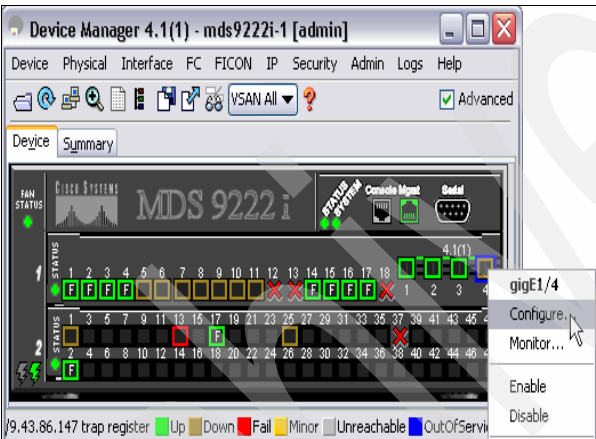

Figure 7-30 Device Manager Interface drop-down menu
1. Open Device Manager and right-click the port, then select **Configure** in the drop-down menu, as shown in Figure 7-30.